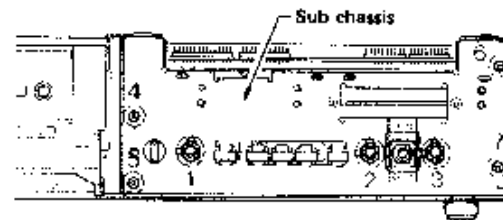

Fig. 17
- Remove hexagonal nuts ① through ③ and screws ④ through ⑦ in fig. 17, and then replace the volume by sliding the sub chassis forward.